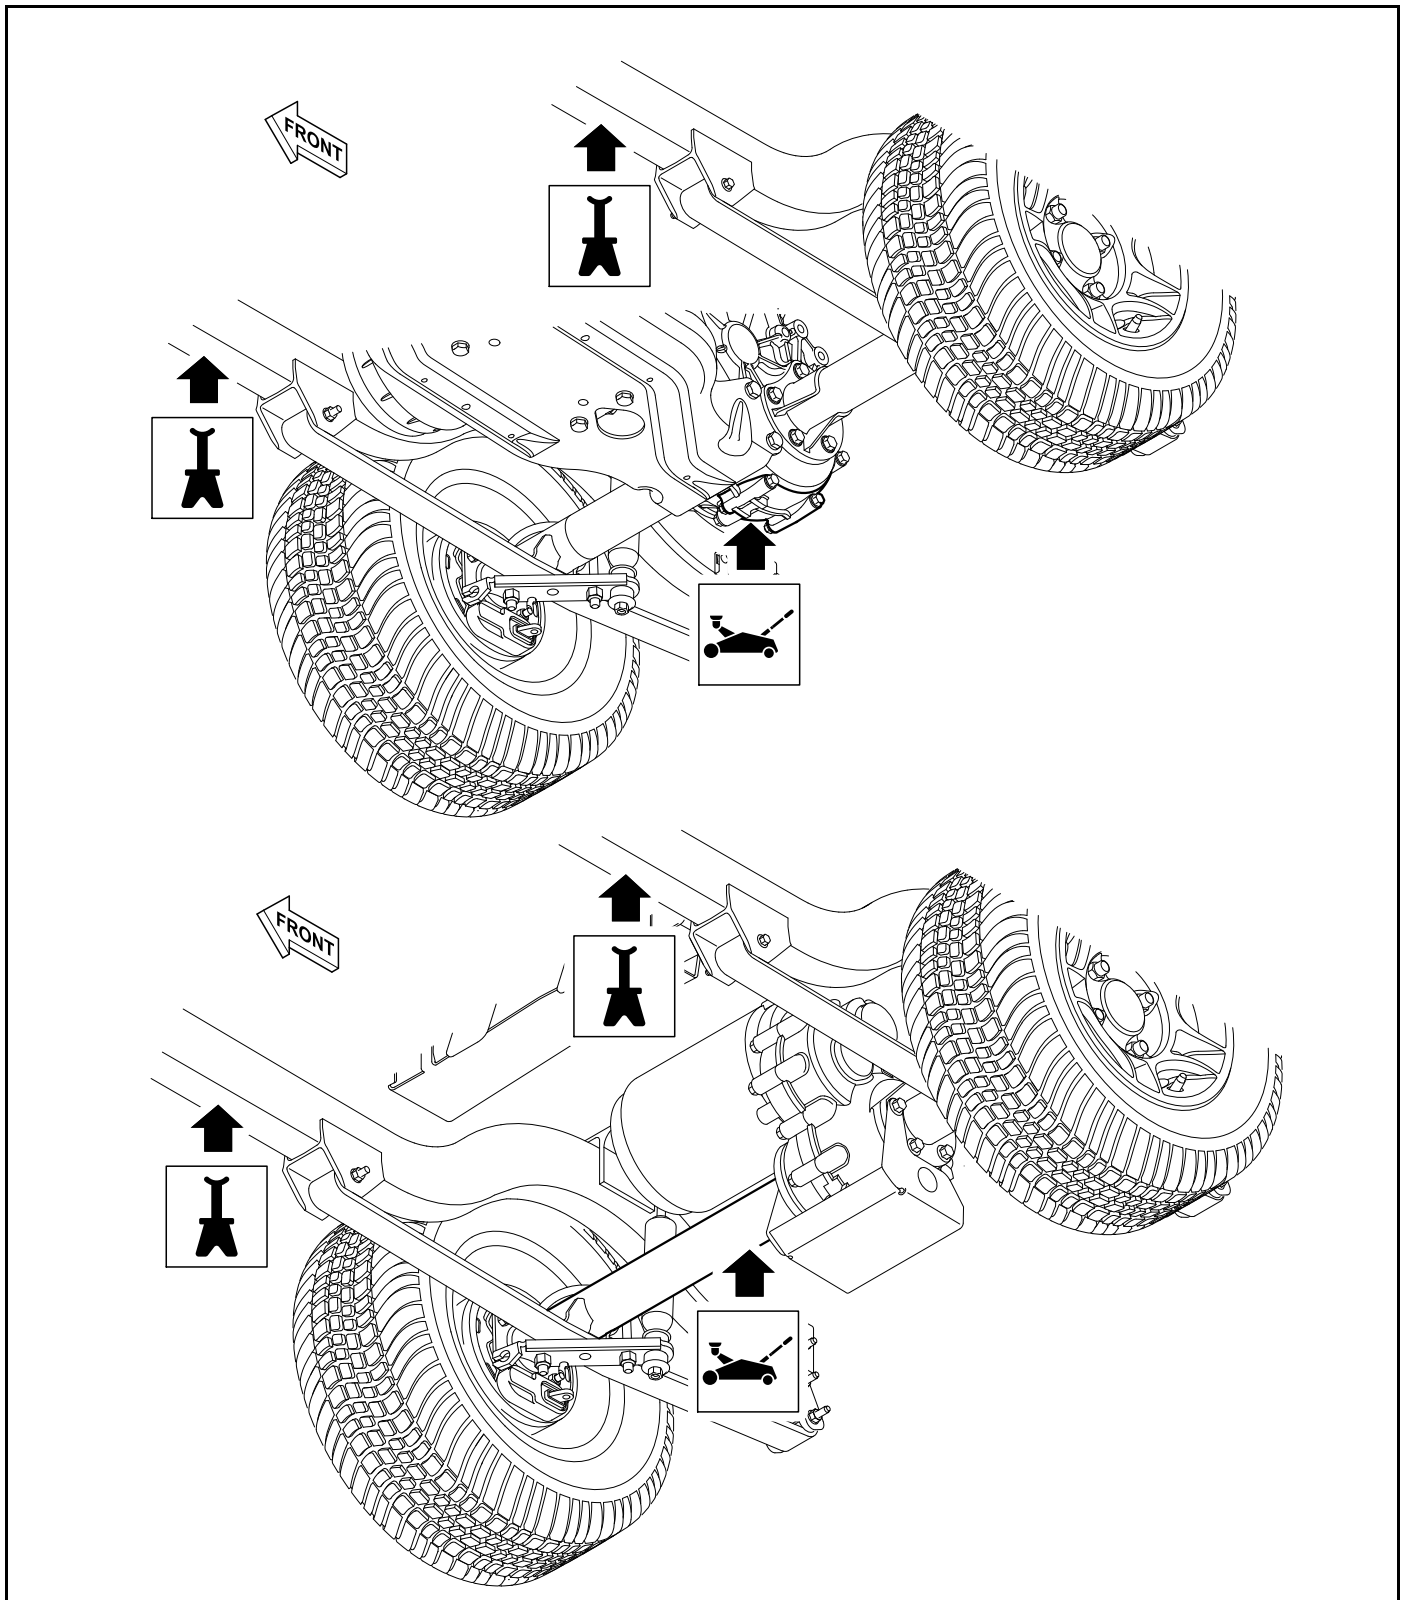

Figure 8-2 Top: Gasoline / Bottom: Electric
Use a jack and jack stands rated for the vehicle (**Figure 8-2, Page 8-3**).
3. Place the jack in the center of the lift point (**Figure 8-2, Page 8-3**).
1. Place the jack in the center of the lift point (**Figure 8-2, Page 8-3**).